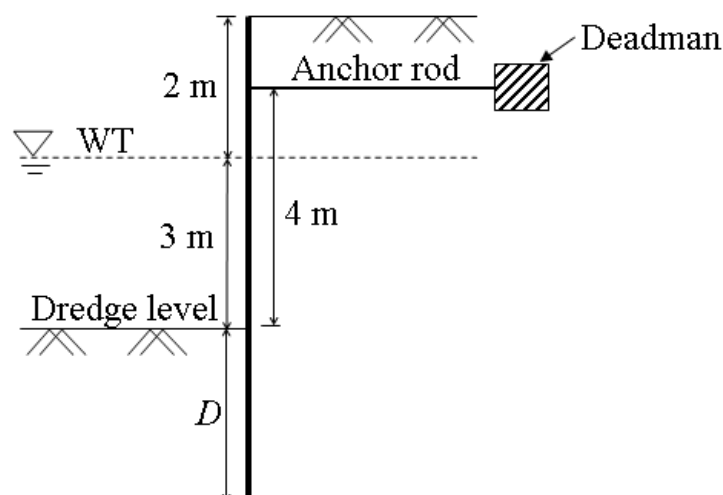

Fig.3
- (c) Determine the theoretical depth of embedment, actual depth of embedment [$D_{\text{actual}} = 1.4D_{\text{theory}}$], the force in the tie rod for the anchored bulkhead shown in Fig.3, which has fixed earth support. The backfill and the soil below the dredge line are sand, having the following properties: $G = 2.6$, $e = 0.75$ and $\phi = 27^\circ$. Use equivalent beam method considering the point of zero moment as lying at a depth of $0.1H$ (where, H is the depth of dredge level below original ground level) from the level of dredge line. Assume the soil above the water table is dry.